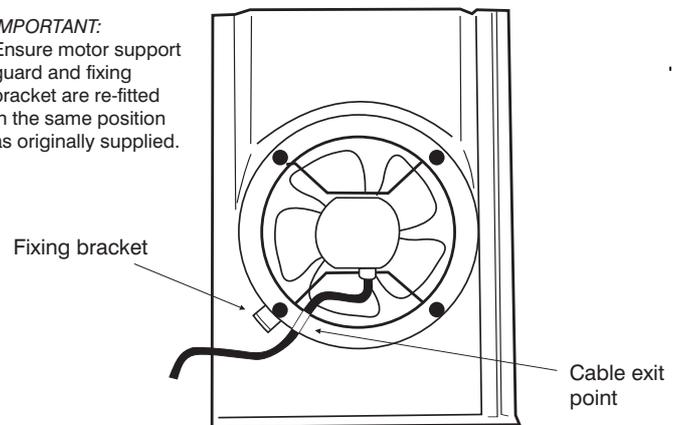

Figure 6. - View from underside of fan
3. Fasten the inlet spigot in position with the M6 flange nuts, ensuring that the motor support guard and fixing bracket are in the same position as originally supplied. (See *Figure 6*.)